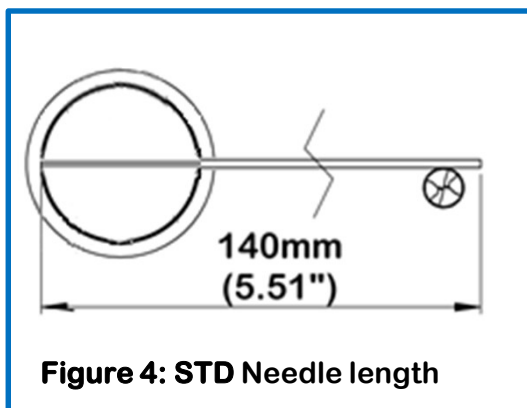

Figure 4: STD Needle length
- d) **Needles and Flat Wands:** The standard Needle length (as shown in Figure 4), may be used. A shortened Needle may also be used, or a longer Needle (up to 8"), may be purchased separately.